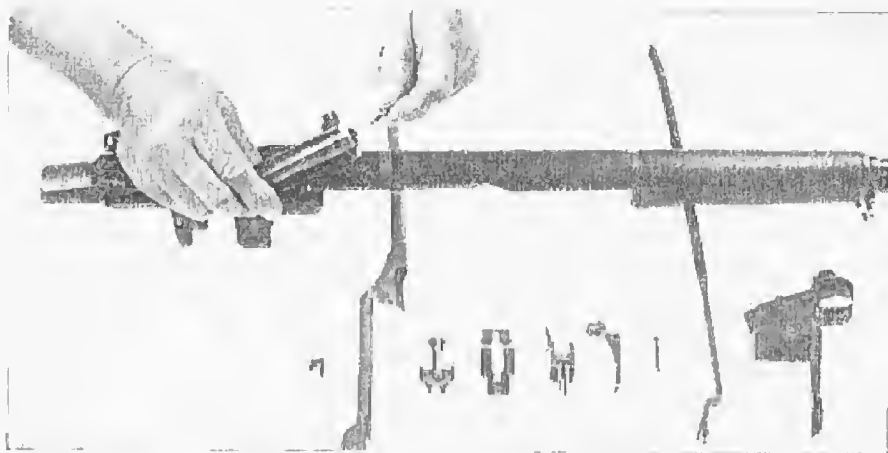

Figure 5. Removing Ejector and Ejector Spring
(4) (Plate 11, Figure 5.) Remove ejector and attached ejector spring. Do not separate.